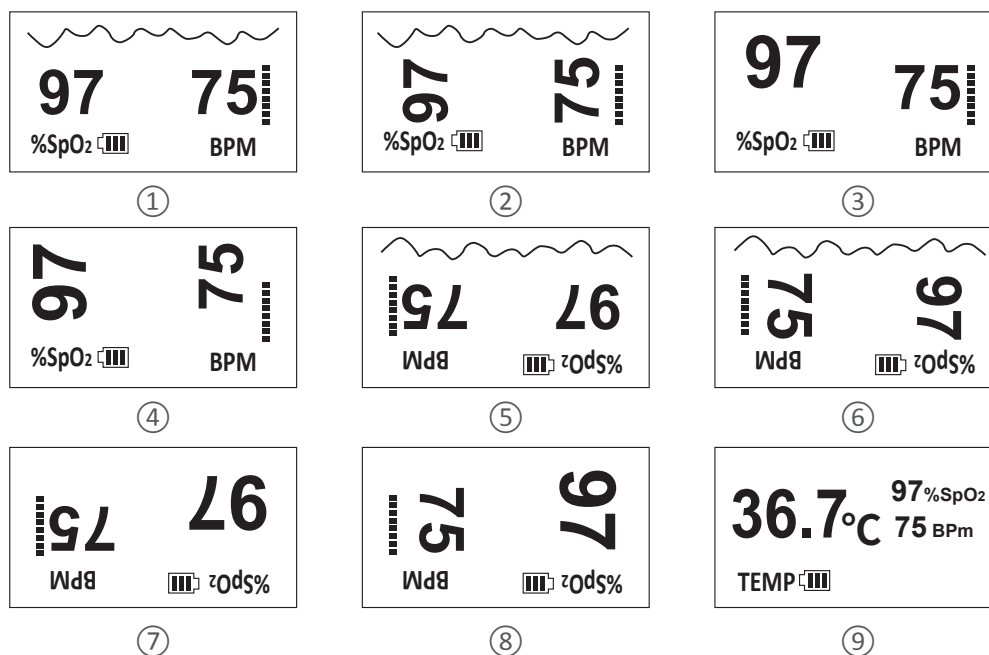

Figure 7
2) There are nine display modes for your choice, See Figure 7. Figure 7. ①- Figure 7. ⑧ display SpO2 and pulse rate, Figure 7. ⑨ display SpO2, pulse rate and temperature.